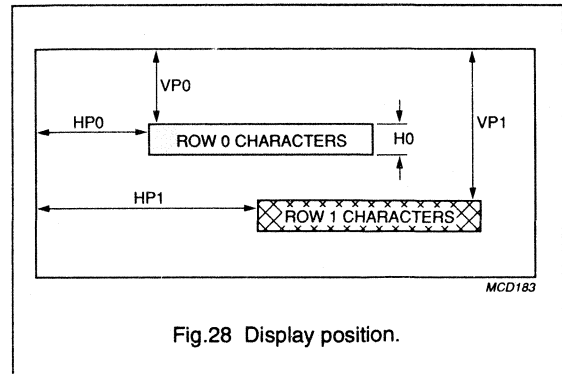

Fig.28 Display position.
Row 0 and Row 1 must not overlap each other and therefore VP1 must be greater than or equal to  $(VP0 + H0)$ , see Fig. 28. H0 is the character height of the characters in Row 0 and is a function of the number of dots per character and the state of the Size control bits SZ00 and SZ01. The four possible character heights are shown in Table 8.
These 6 bits determine the start position of the first display row. The horizontal position control is only active during OSD clock cycles. (See Fig. 28).
Row 0 and Row 1 must not overlap each other and therefore VP1 must be greater than or equal to (VP0 + H0), see Fig. 28. H0 is the character height of the characters in Row 0 and is a function of the number of dots per character and the state of the size control bits SZ00 and SZ01. The four possible character heights are shown in Table 8.
These 6 bits determine the start position of the second display line (Line 1). The horizontal position control is only active during OSD clock cycles. (See Fig. 28). The horizontal start position (HP) of Line 1 may be calculated using: